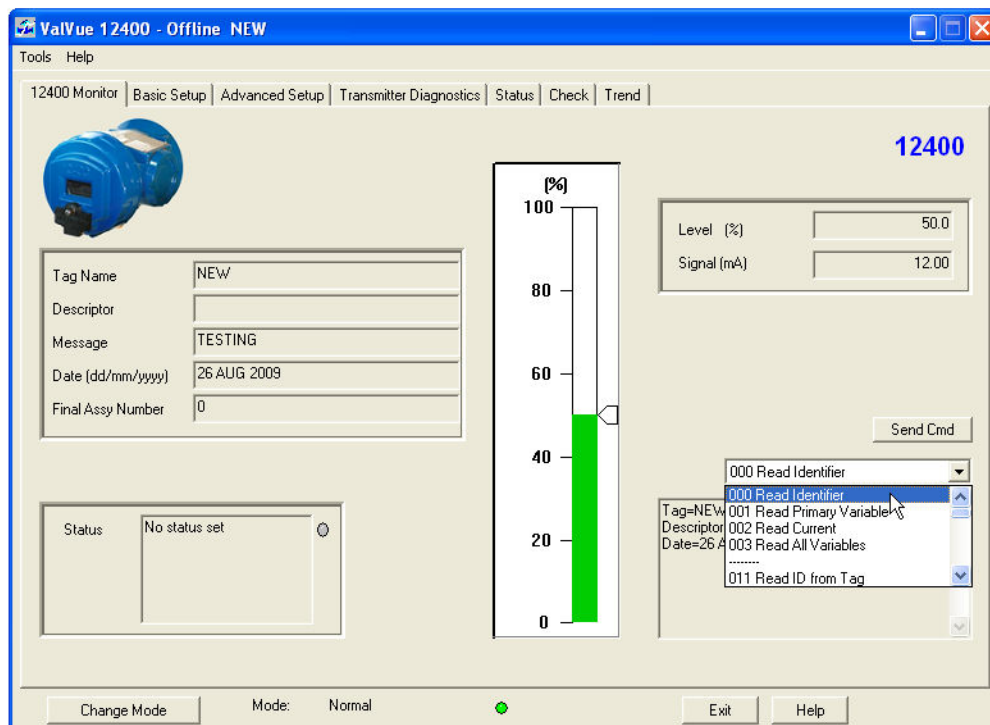

Figure 96 Monitor Screen without Controller Activation
1. Select the command from the drop down list on the *Monitor* screen (Figure 96).